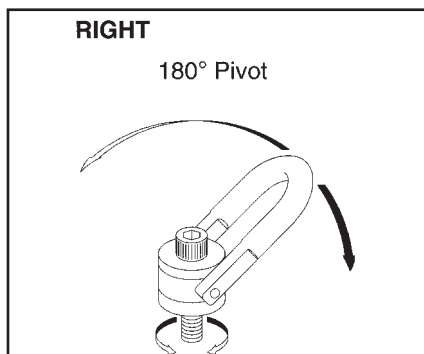

Figure 4
- Always ensure free movement of bail. The bail should pivot 180° and swivel 360°. (Fig. 4)